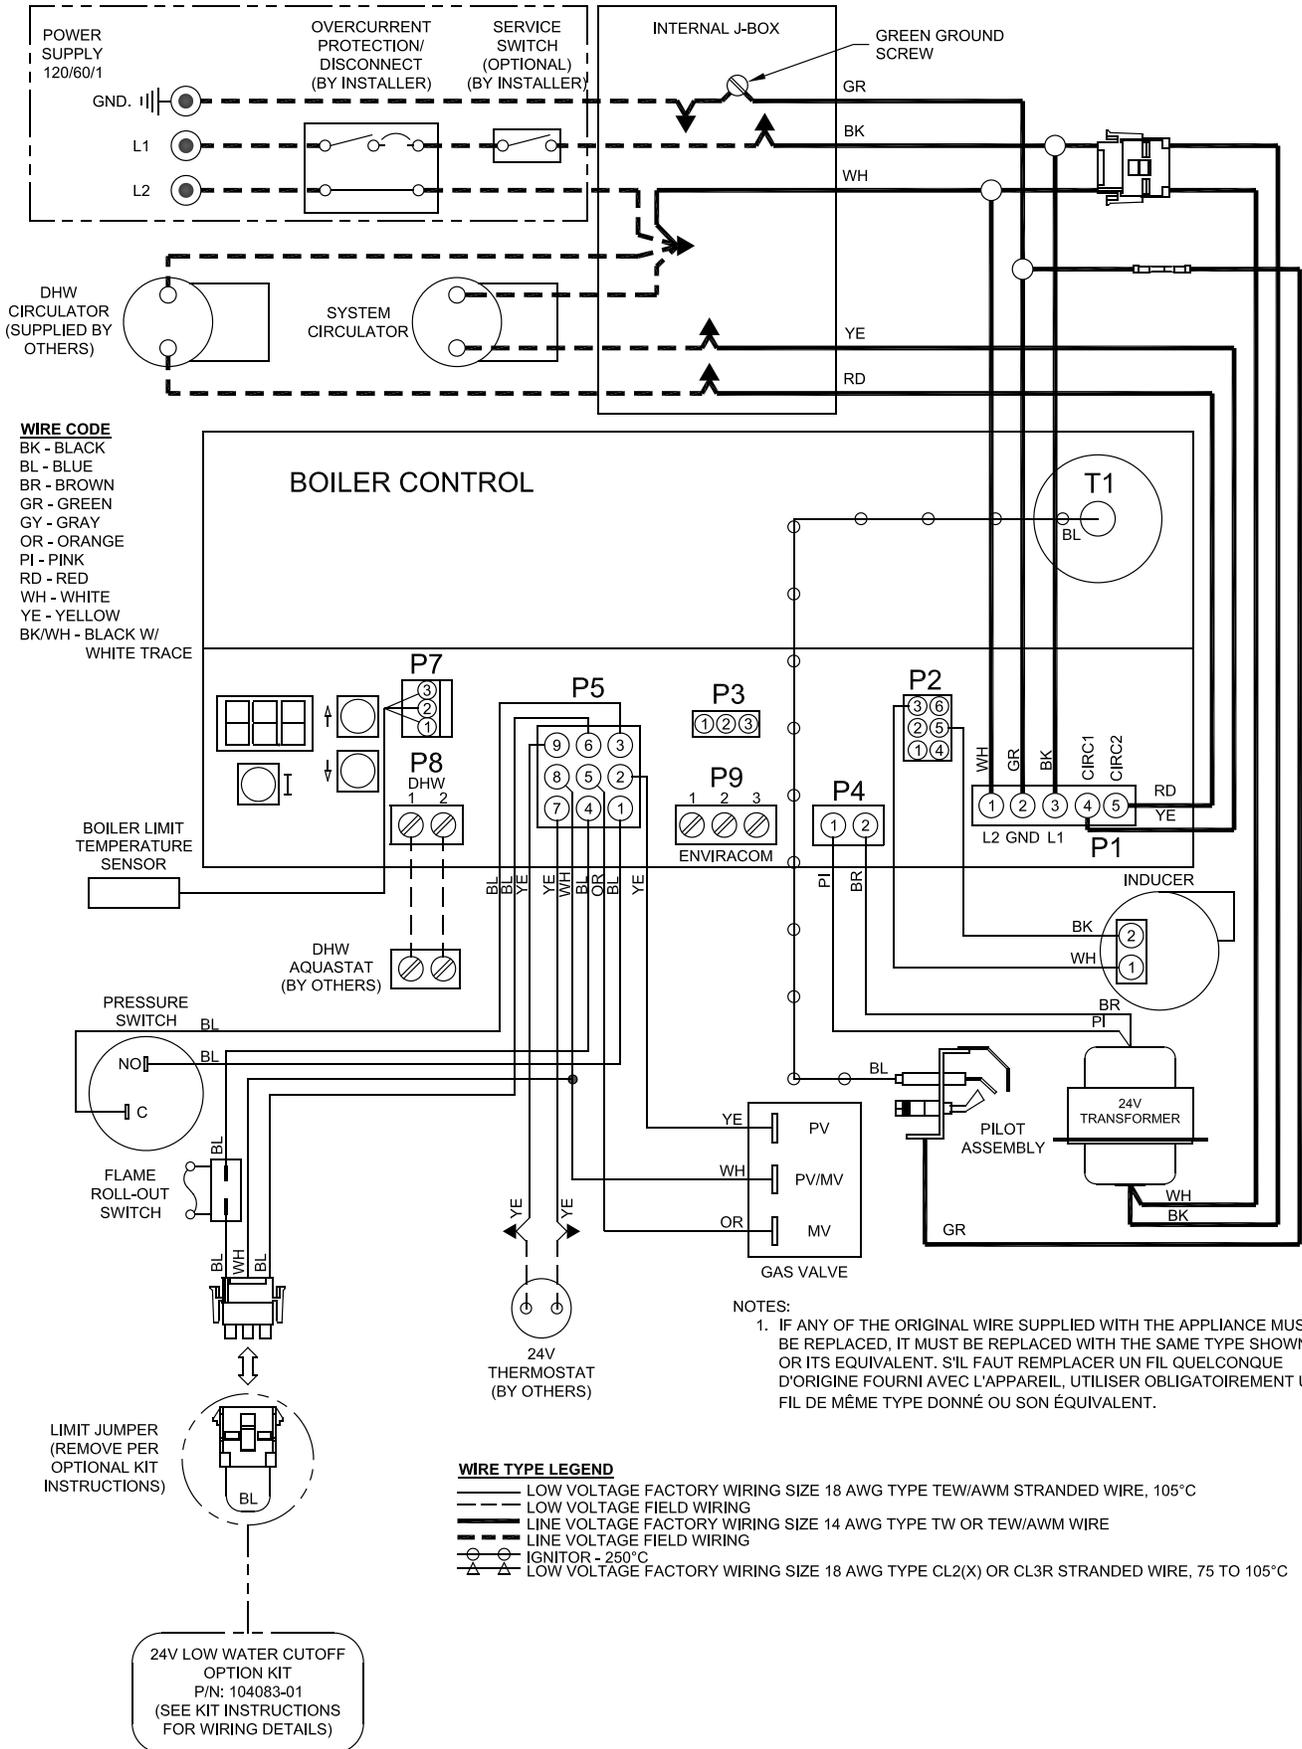

Figure 17: Wiring Connection Diagram
- E.** Refer to Figures 17 and 18 for details on the internal boiler wiring.